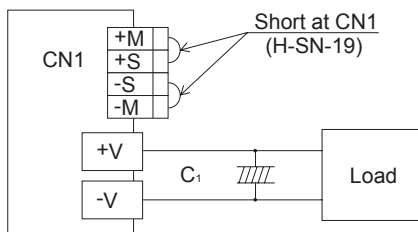

Fig.2.4 When not using remote sensing function
■ Please see Fig.2.4 if you do not use the remote sensing function.